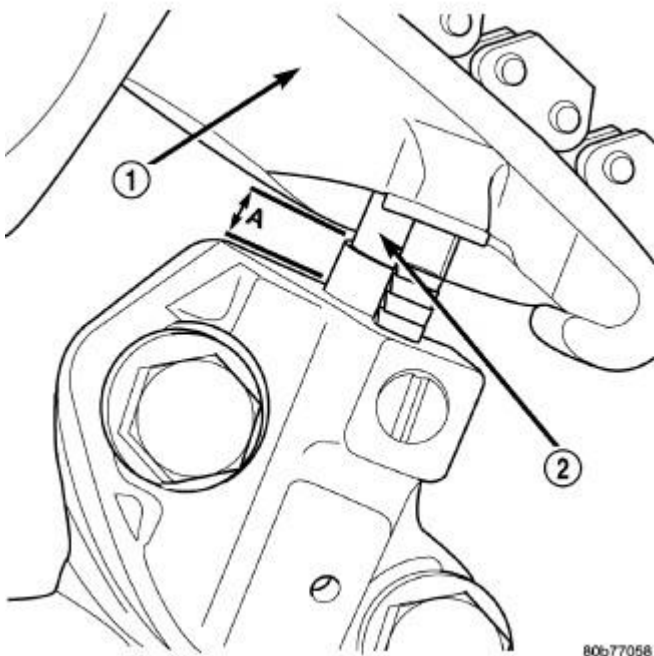

Fig. 152: Measuring Secondary Timing Chains For Wear
2. To determine if the secondary timing chains are worn, rotate the engine clockwise until maximum tensioner piston (2) extension is obtained. Measure the distance between the secondary timing chain tensioner housing and the step ledge on the piston. Refer to **Fig. 152**. The measurement at point (A) must be less than 15 mm (.5906 inches).